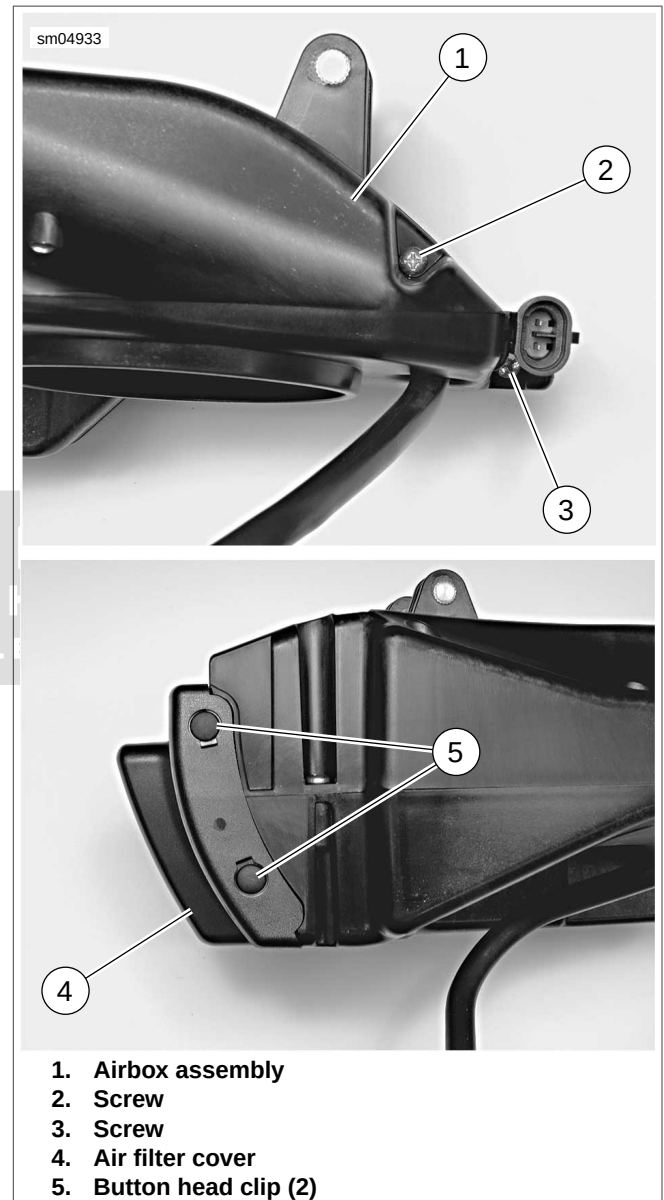

Figure 1-100. Unbolting Air Filter Cover
2. See Figure 1-100. Using a long magnetic phillips screwdriver, remove two screws (2, 3) securing air filter cover (4) to airbox assembly (1).
4. Using a small flat blade screwdriver, or other suitable tool, gently pry two button head clips (5) securing air filter cover to airbox. Discard button head clips.
5. See Figure 1-100. Install rear of air filter cover in place onto airbox. Secure with two screws (2, 3) and tighten.
6. Install **new** button head clips (5). Press in firmly.